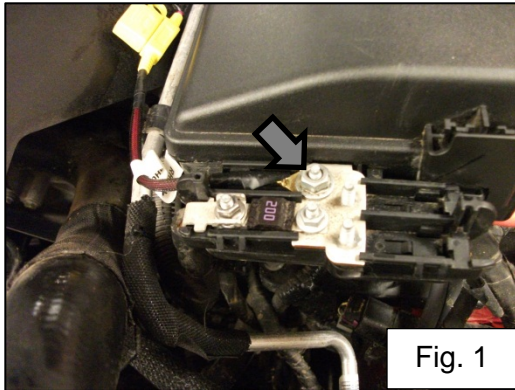

Fig. 1
2. Make sure supplied fuse is not installed in fuse holder and connect the subwoofer power wire to the stud pictured in figure 1. Tighten to 4.7Nm (42in-lb)